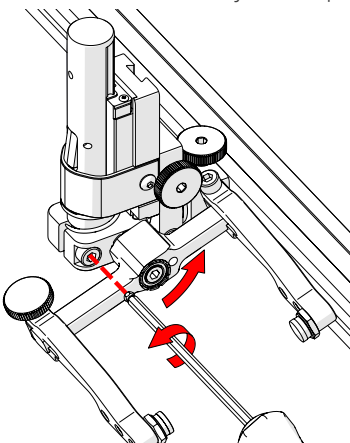

Fig. 115 - Loosen 3 mm screw
2. Using the supplied 3 mm hex driver loosen the transverse adjustment screw (*Fig. 115*) and rotate the yoke about the vertical shaft achieving the desired angle.